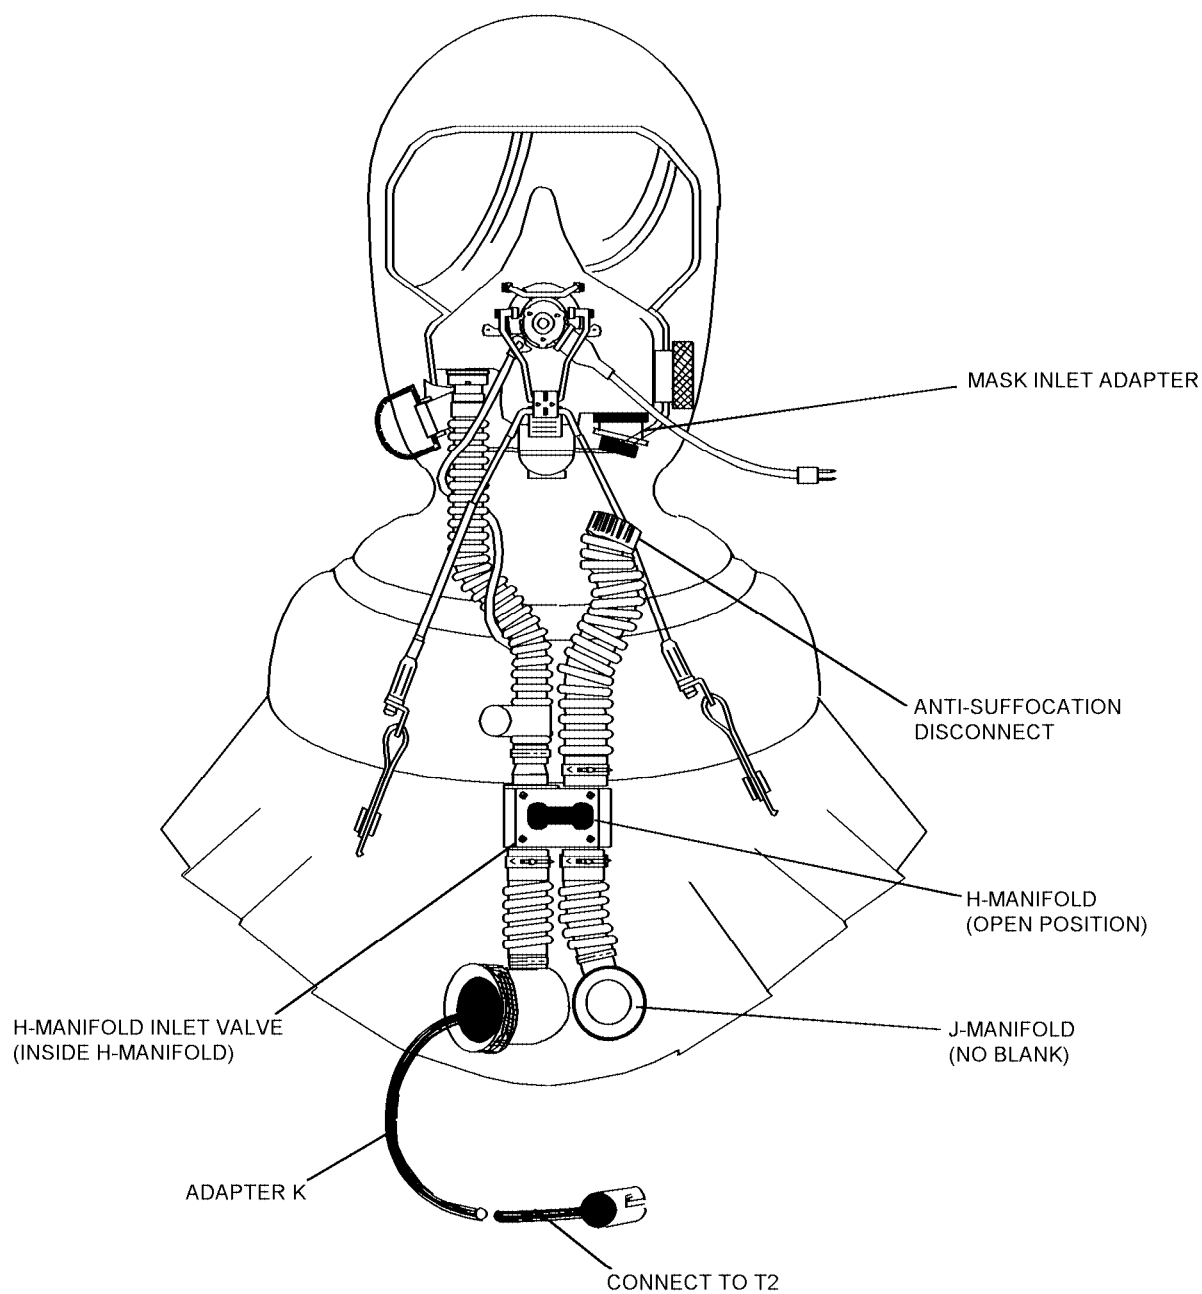

Figure 4-93. (V)2 thru (V)4 Variants - H-Manifold Inlet Valve - Reverse Leakage Test
2. Connect adapter K to right-side J-manifold and T2 (figure 4-93 and 4-94).